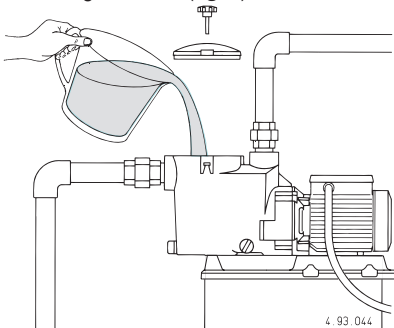

Fig. 2 Filling
**When the pump is located above the water level** (suction lift operation) fill the pump with water up to suction port level through the opening on the strainer after removing the cover (**fig. 2**).